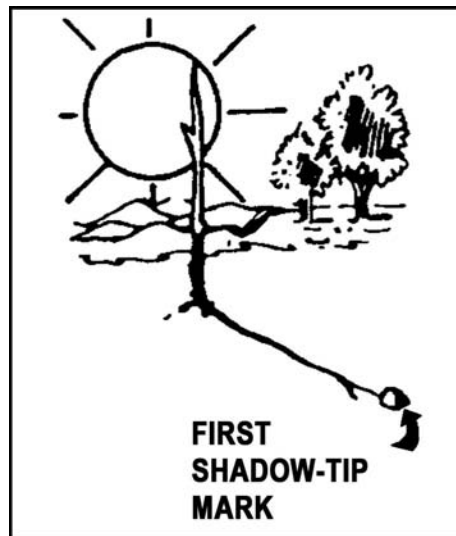

Figure 071-329-1018-1. First shadow-tip mark
- a. Place a stick or branch into the ground vertically at a fairly level spot where the sun will cast a distinct shadow. Mark the shadow with a stone, twig, or other means (figure 071-329-1018-1).
- b. Wait 10 or 15 minutes until the shadow tip moves a few inches. Mark the new position of the shadow tip just like the first (figure 071-329-1018-2).